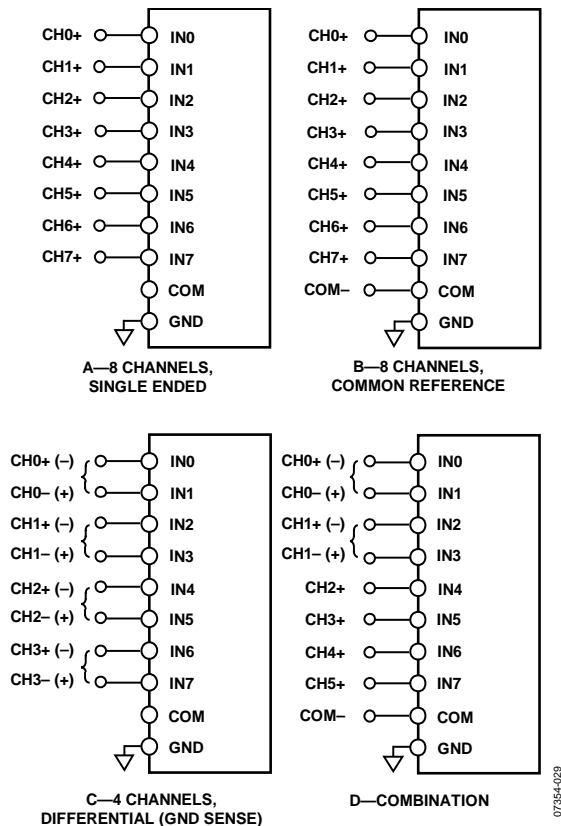

Figure 33. Multiplexed Analog Input Configurations
Figure 33 shows the different methods for configuring the analog inputs with the configuration register (CFG[12:10]). Refer to the Configuration Register, CFG section for more details.
- Configuration A in Figure 33: single-ended referenced to system ground; $CFG[12:10] = 111_2$.
- Configuration B in Figure 33: bipolar differential with a common reference point; $COM = V_{REF}/2$; $CFG[12:10] = 010_2$. Unipolar differential with COM connected to a ground sense; $CFG[12:10] = 110_2$.
- Configuration C in Figure 33: bipolar differential pairs with $INx-$ referenced to $V_{REF}/2$; $CFG[12:10] = 00X_2$. Unipolar differential pairs with $INx-$ referenced to a ground sense; $CFG[12:10] = 10X_2$. In this configuration, the $INx+$ is identified by the channel in $CFG[9:7]$. For example, for $IN0 = IN1+$ and $IN1 = IN1-$, $CFG[9:7] = 000_2$; for $IN1 = IN1+$ and $IN0 = IN1-$, $CFG[9:7] = 001_2$.
- Configuration D in Figure 33: inputs configured in any of the above combinations (showing that the AD7699 can be configured dynamically).